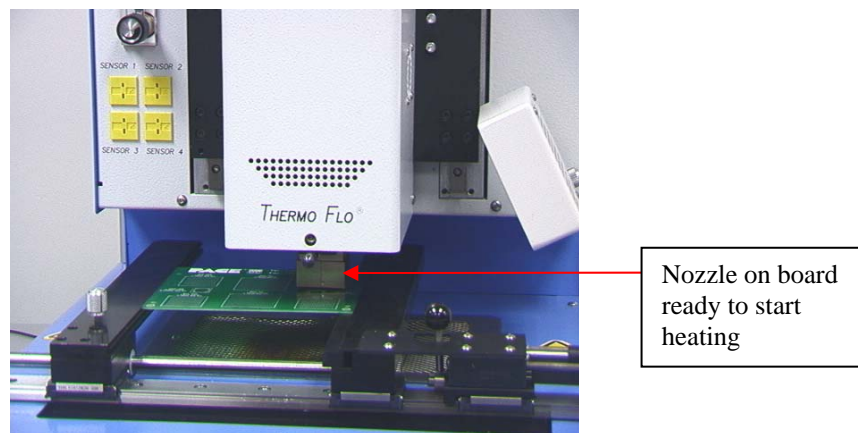

Figure 21
- xvi. Mouse click on the green button, "Place" to lower the component. (Figure 21)
- i. Open the cover on the back of the TF 1700 or TF 2700. (Figure 21)